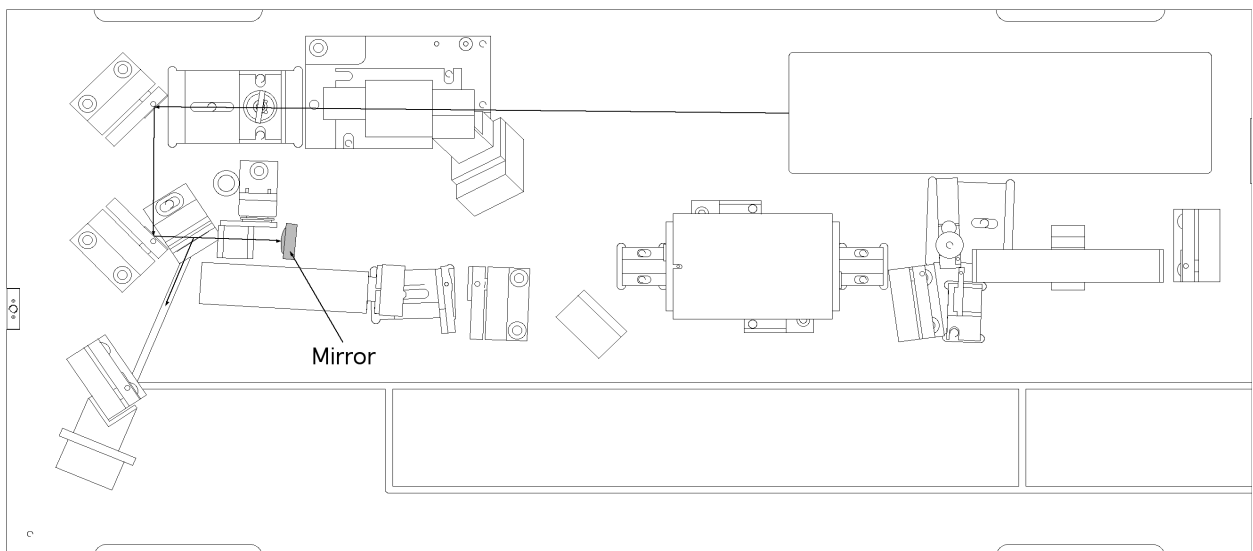

Figure 2.4-1. Alignment of Thin-Film Polarizer
3. Remove the SBS lens mount, the SBS cell and its mount, and the spatial filter, marked grey in Figure 2.4-1.
4. Position a mirror as shown in Figure 2.4-1. Retroreflect the beam back through the polarizer.